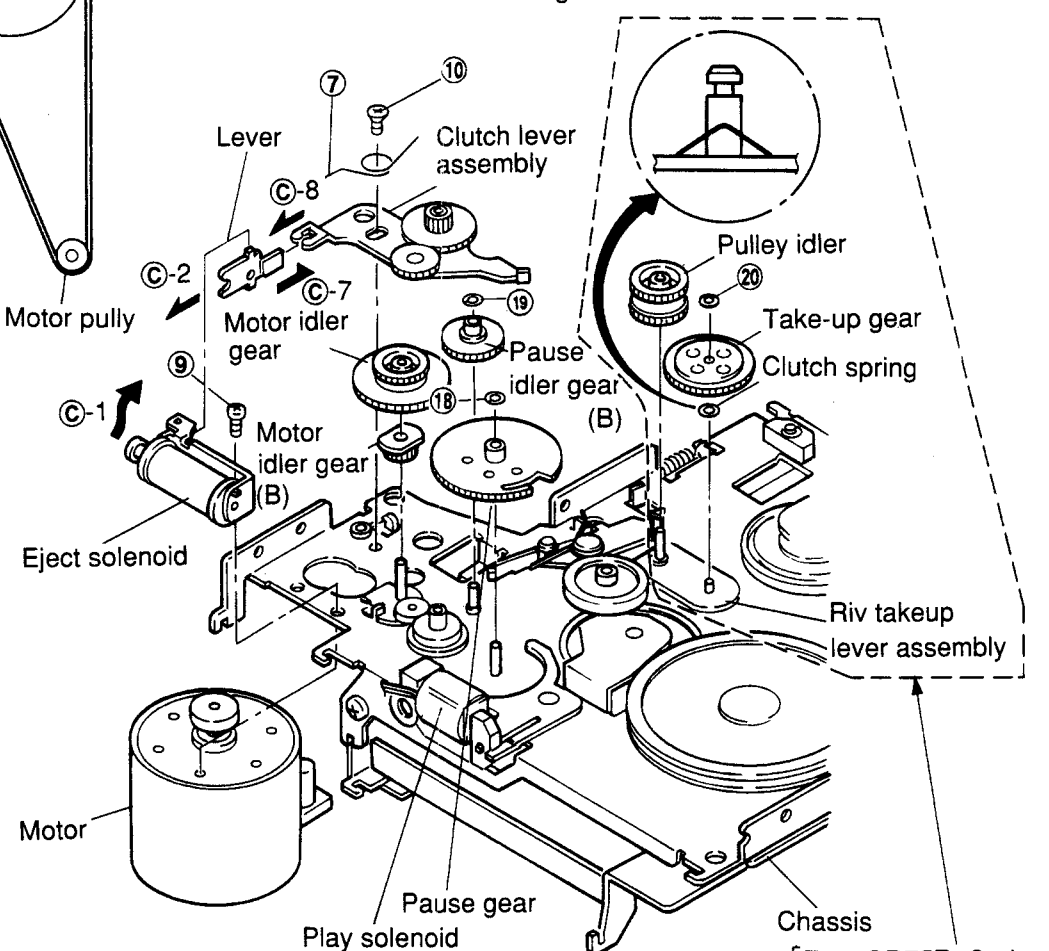
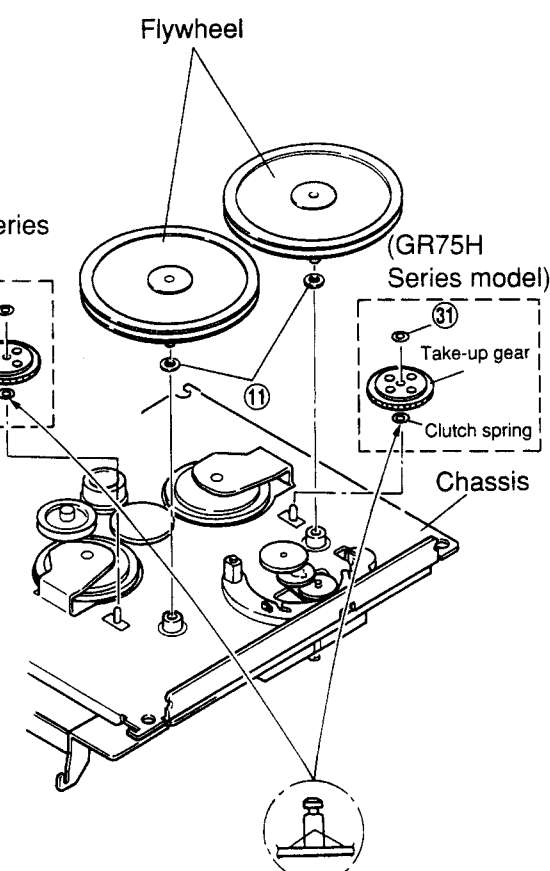
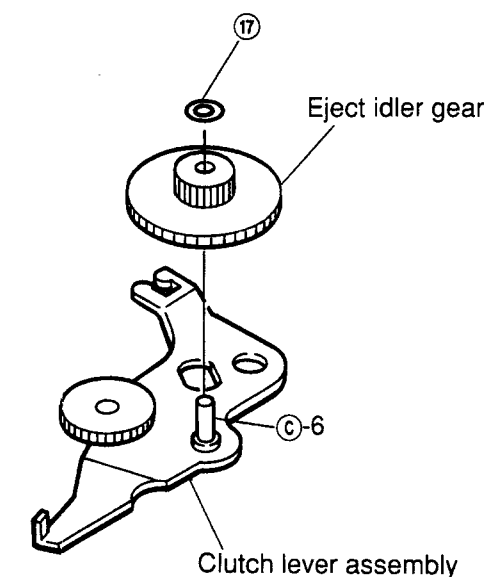

Figure 10
Figure 12
Figure 15
- (1) After removing the belt, remove spring ⑦ as shown in Figure 10.
- (3) Remove two screws ⑨ and ⑩, and remove the motor, taking care not to damage the motor idler gear. (Refer to Figure 10.)
- (4) Mount the new motor following the removal steps in the reverse order.
- (1) After removing the belt, pull out the two flywheels. Take care not to loose the polyslider washer ⑪ located between the flywheel and the chassis. (Refer to Figure 12.)
- (2) Fix the polyslider washer to the new flywheel and mount the flywheel to the chassis.
- (2) Remove screw ⑨ and remove the solenoid as shown in Figure 10.
- (3) Align position ①-1 of the new solenoid with position ①-2 of the lever and fasten the screw as shown in Figure 10.
- (4) Lead the wire through the tube and solder it.
- (1) After removing the motor, remove the motor idler gear and the motor idler gear (B) and remove the clutch lever assembly as shown in Figure 10.
- (2) Remove M1.2 lock washer ⑮ and remove the eject idler gear as shown in Figure 15.
- (3) Mount the new gears and clutch lever following the removal steps in the reverse order.
Note: When mounting the gears to the lever, apply grease (PG-671) to the position ㉔-6 as shown in Figure 15. Align the position ㉔-7 with the position ㉔-8 and mount the clutch lever as shown in Figures 10 and 15.
- (1) Remove M1.2 lock washer ⑮ and remove the pause gear pulling it up from the stud of the chassis as shown in Figure 10.
- (2) Mount the new gear following the removal steps in the reverse order.
- (1) After removing the motor and the motor idler gear, remove M1.2 lock washer ⑮ and remove the gear by pulling it up from the stud of the chassis as shown in Figure 10.
- (2) Mount the new gear by following the removal steps in the reverse order.
- (1) After removing the belt and the pulley idler gear, remove M1.2 lock washer ⑮ by pulling it up from the stud of the riv take-up lever assembly as shown in Figure 10. After removing the Flywheel, remove M1.2 lock washer ⑮ and remove the gear by pulling it up from the stud of the chassis as shown in figure 12. [For GR75H Series model]
- (2) Remount the take-up gear following the removal steps in the reverse order.